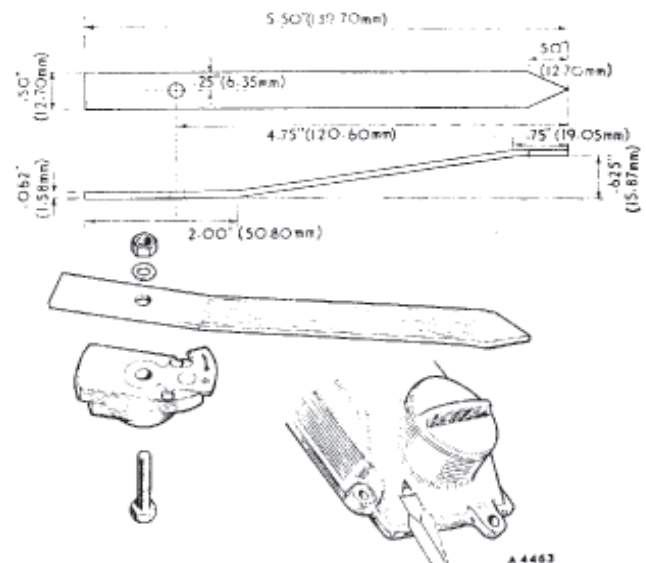

Fig. B.6
- (1) Fabricate a pointer as shown in Fig. B.6 and secure it to a disused rotor arm with a nut and bolt.
- (2) Remove the header tank hose to give access to the distributor.
- (3) Lock the automatic advance mechanism by removing the cam retaining screw and refitting it with a washer underneath its head. The washer may be made from a piece of wire .030 in. (.76 mm.) diameter and 1½ in. (28.57 mm.) long formed into a circle.
- (4) Fit the rotor and pointer to the distributor and ensure that the rotor is tight on the spindle.
- (5) Rotate the crankshaft until the pointer is over the flange of the camshaft cover (Fig. B.6).
- (6) Turn the pointer by hand in an anti-clockwise direction and mark the limit of its travel on the camshaft cover flange; then turn the pointer clockwise, and again mark the limit of its travel.
- (8) If the distance between the two limits exceeds $\frac{1}{16}$ in. (8 mm.) the distributor drive gears must be renewed before a new distributor is fitted.